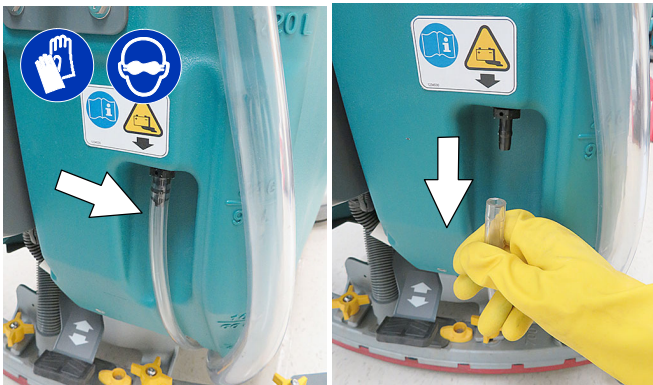

FIG. 135
2. Pull the battery compartment drain hose from hose holder and carefully drain liquid from battery compartment (Figure 135).